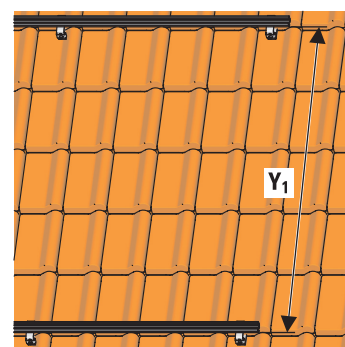

Fig. 3-14 Mounting the upper rails (see Tab. 3-3 for dimension)
16. Install the upper mounting profile rail at a distance of Y_1 from the lower mounting profile rail (Fig 3-14) (mounting sequence the same as the lower mounting profile rail). Make sure that the upper mounting profile rail forms a flat parallel area for supporting the flat solar panels in connection with the lower mounting profile rail and the height adjustment.